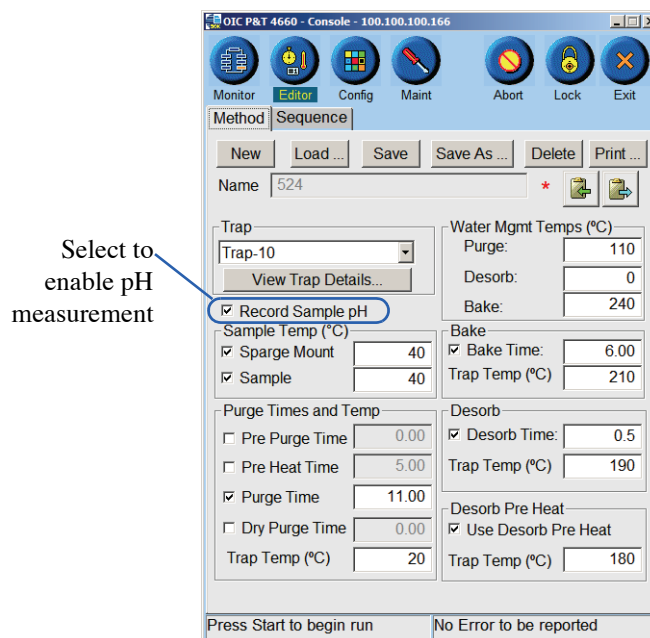

Figure 7.5. Enabling pH measurement in a method
2. Select the checkbox for **Record Sample pH** to enable pH measurement (see Figure 7.5).